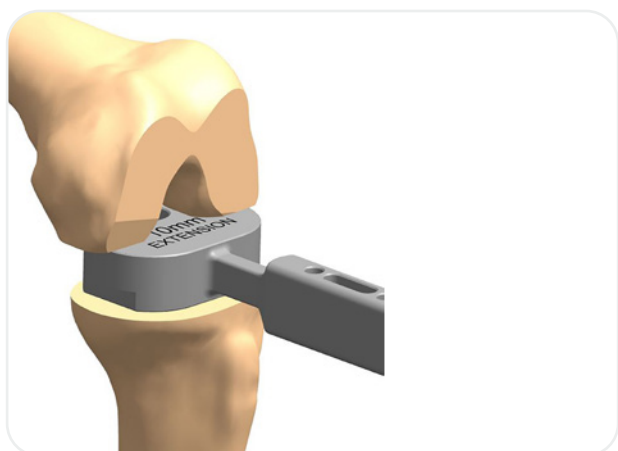

Figure 30
1. The 9mm end of the Extension Spacer Block should easily insert into the flexion gap (**Figure 30**).